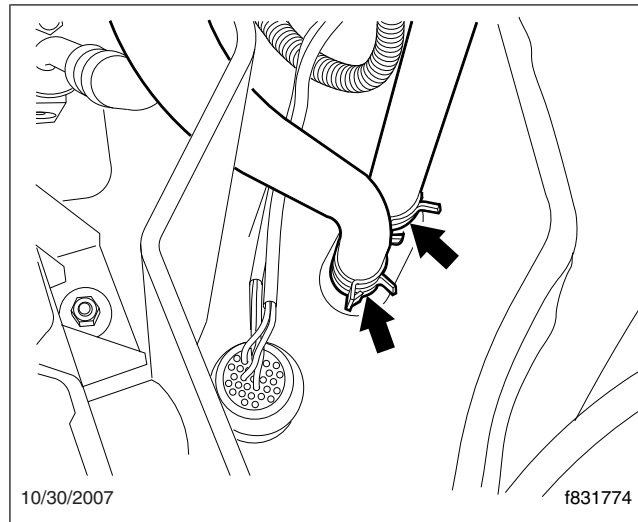

Fig. 8, Coolant Lines
21. Place a drain pan under the vehicle, clamp the coolant lines to prevent excessive drainage from the cooling system, then disconnect the coolant lines from the heater core. Allow the heater core to completely drain into the pan. See Fig. 8.